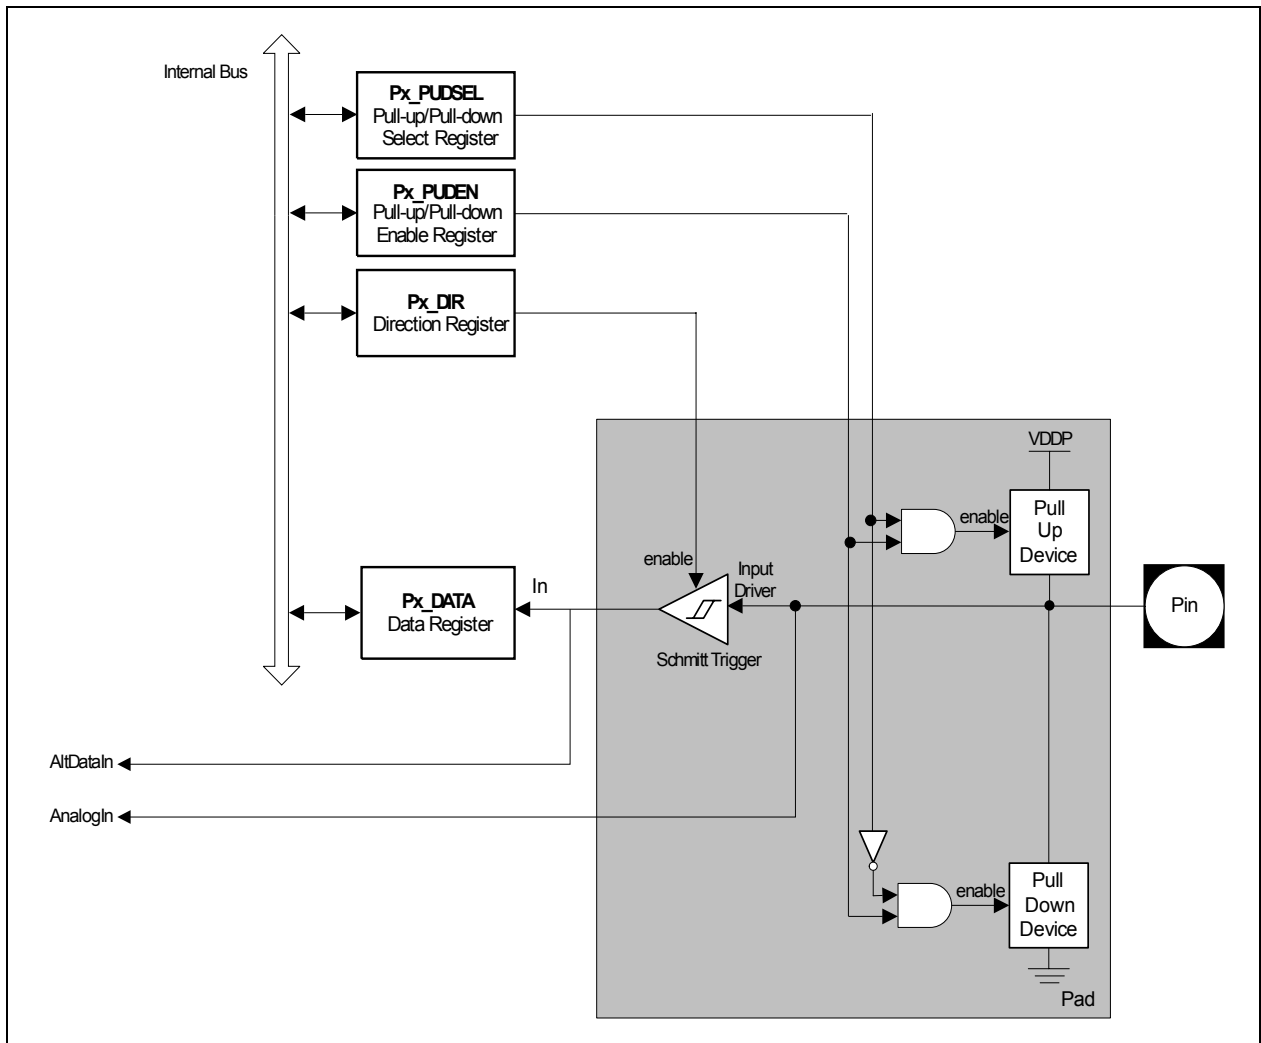

**Figure 20** General Structure of Input Port
**Figure 20** shows the structure of an input-only port pin.